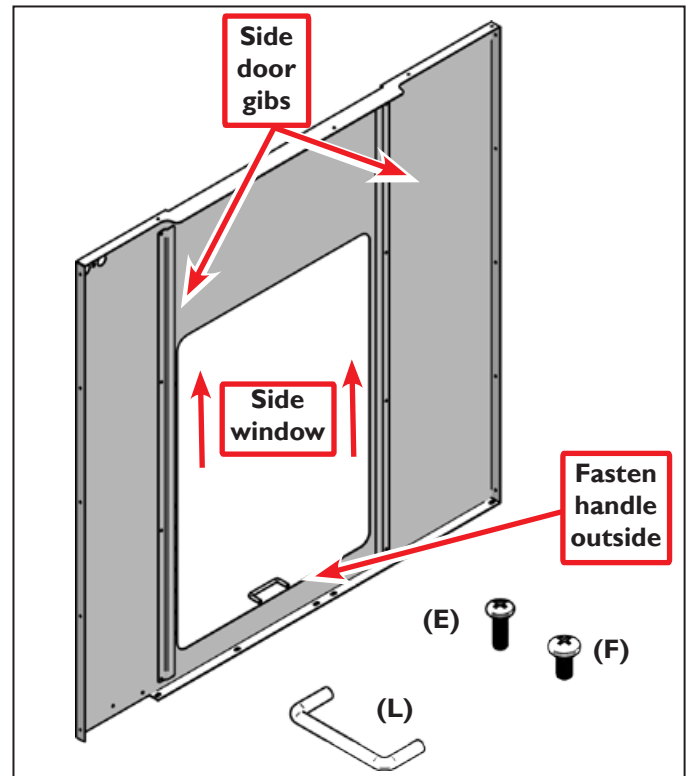

Figure 21
51. Place one Side Door Gib (E.27) on the inside of the Left Side Panel and fasten with screws (F) as seen in **Figure 21**.
52. Place one Side Window (E.13;Tormach PN 34949) into the side door gib (see **Figure 21**).
53. Hold the Side Window in place and fasten the other Side Door Gib (E.27) using (F) screws, trapping the side window and allowing vertical movement only (see **Figure 21**).
54. Fasten the Small Handle (L) into place using (E) screws as seen in **Figure 21**.